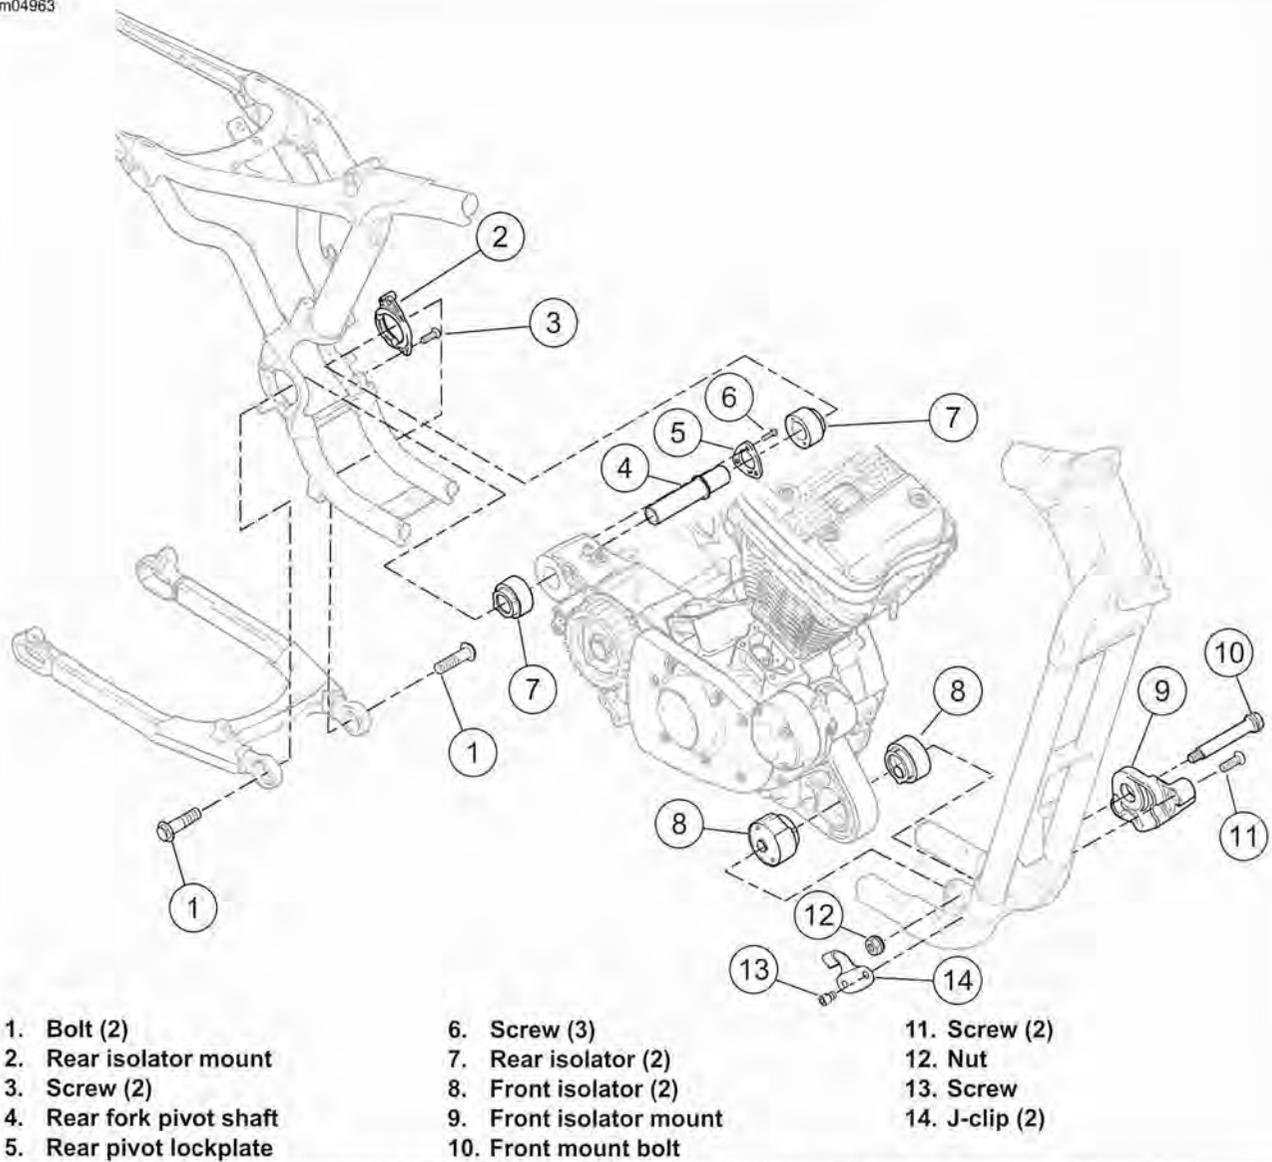

Figure 3-17. Engine Mount/Isolator Components (typical)
34. See Figure 3-17. Remove fasteners (13) and j-clip (14) from each side of frame.
35. Loosen, but do not remove, two front isolator mounting bracket screws (11) on left side of engine.
36. Loosen, but do not remove, two rear isolator mounting bracket screws (3) on left side of engine.
38. Remove front engine mount bolt (10) and nut (12).
39. Remove two screws (11) and front isolator mount (9).
40. Remove two rear engine mount/rear fork pivot bolts (1). Pull rear fork back until fork pivot bosses clear the frame.
42. Remove two screws (3) and rear isolator mounting bracket (2) from frame.